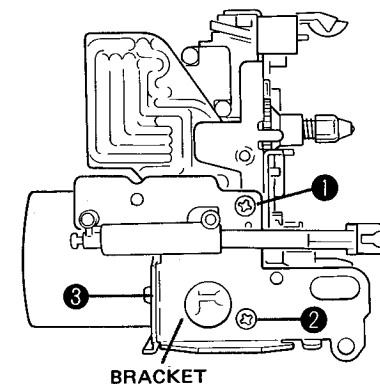

Fig. 11
3. Remove the screws 1 to 3 in Fig. 11 and remove the bracket and then remove the cassette support.